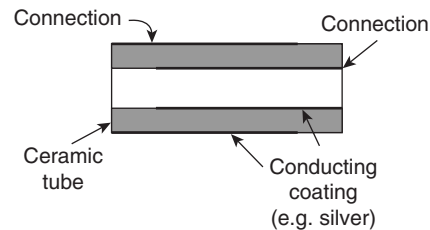
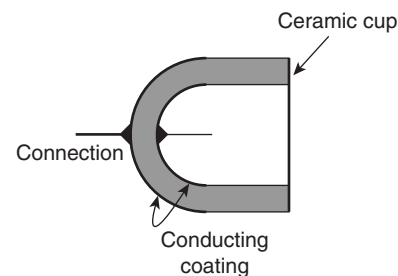
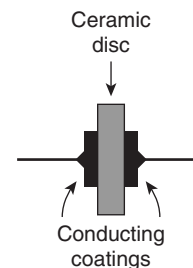

Figure 6.17
Figure 6.18
Figure 6.19
4. **Ceramic capacitors.** These are made in various forms, each type of construction depending on the value of capacitance required. For high values, a tube of ceramic material is used as shown in the cross-section of Fig. 6.17. For smaller values the cup construction is used as shown in Fig. 6.18, and for still smaller values the disc construction shown in Fig. 6.19 is used. Certain ceramic materials have a very high permittivity and this enables capacitors of high capacitance to be made which are of small physical size with a high working voltage rating. Ceramic capacitors are available in the range 1pF to $0.1\mu\text{F}$ and may be used in high-frequency electronic circuits subject to a wide range of temperatures.